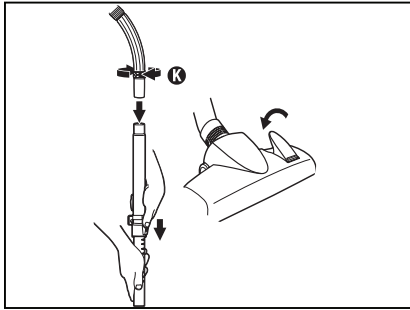

Fig. 6
**Step 3:** For models with telescopic wands, extend wands by pushing lock button down and pulling on lower wand until reaching desired height (Fig. 6).
**Step 4:** Adjust to maximum suction by closing the slip ring (K) on the hose handle (Fig. 6).
**Step 2:** Adjust to minimum suction by opening the slip ring (K) on the hose handle (Fig. 6).